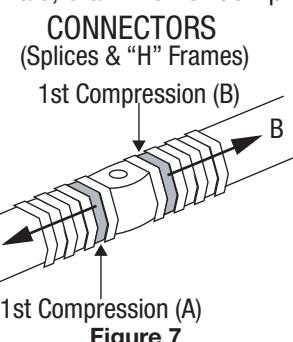

Figure 7
- For splices and "H" frame connectors, start the 1st compression in the center alternating sides if possible. (Fig.7)